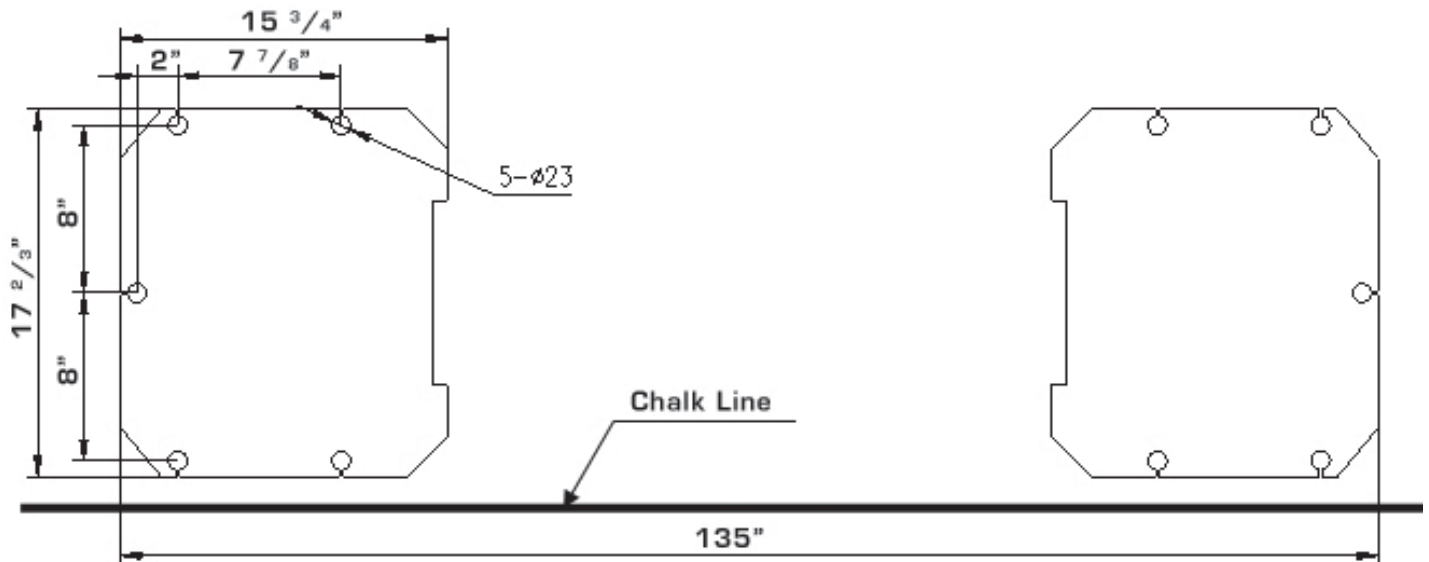

Fig. 5
When establishing the installation layout, please add 6 inches between the columns to allow for the extra width of the overhead bar. (See Fig. 5 on page 10)
B. Use A Carpenter's Chalk Line To Establish Installation Layout Of Base Plate (See Fig.5)